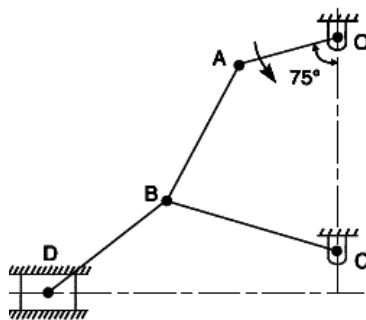

Fig. 1
- (c) In Fig. 1, the angular velocity of the crank OA is 600 r.p.m. Determine the linear velocity of the slider D and the angular velocity of the link BD, when the crank is inclined at an angle of 75° to the vertical. The dimensions of various links are: OA = 28 mm; AB = 44 mm; BC = 49 mm; and BD = 46 mm. The centre distance between the centres of rotation O and C is 65 mm. The path of travel of the slider is 11 mm below the fixed-point C. The slider moves along a horizontal path and OC is vertical. **07**